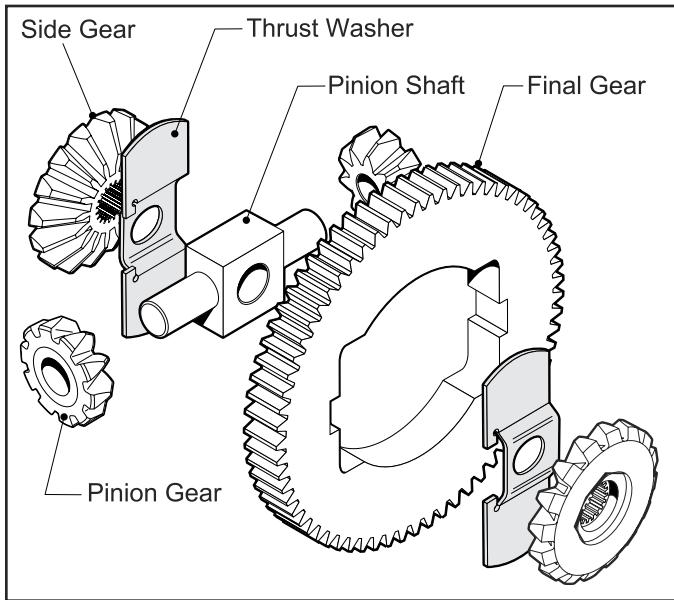

Fig. 38, Differential Gear Assembly
1. Install the (2) Differential Pinion Gears to Differential Pinion Shaft. (Fig. 38)
2. Install the Differential Pinion Assembly (Pinion Shaft and (2) Pinion Gears) within the Final Gear. (Fig. 38)
3. Position the (2) Thrust Washers aginst Pinion Shaft body and Final Gear. (Fig. 38)
4. Position the (2) Differential Side Gears next to Thrust Washers. (Fig. 38)